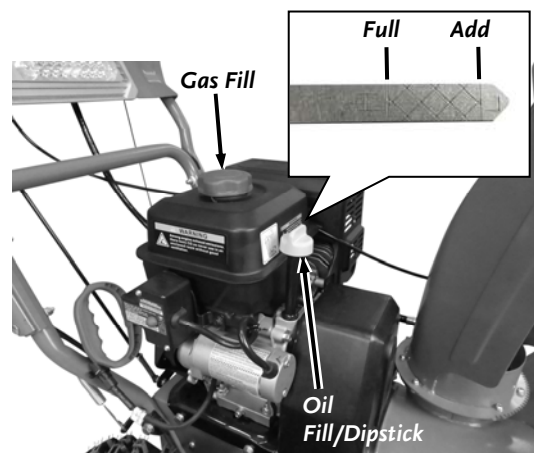

Figure 40
4. Remove the Oil Fill/Dipstick and initially add 3/4 of oil (type of oil recommended by the Engine Manufacturer) into the Oil Fill and wait one minute for the oil to settle (**Figure 40**).